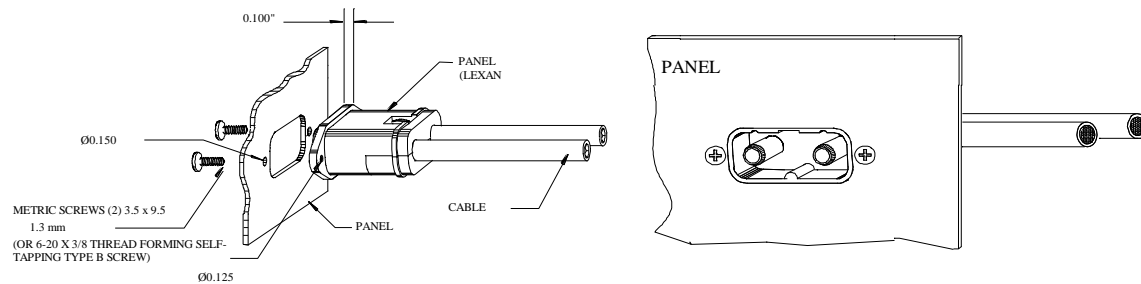

FIGURE 2. PANEL PLUG
- 2.) Insert the assembled PANEL PLUG from the backside of the panel. Carefully align the two screw holes of the panel to the panel plug flange holes (see Figure 2). Orient latch up or down according to your need.